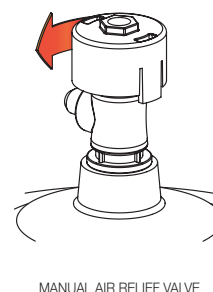

Figure 4
Verify that the Filter Manual Air Relief Body is in the LOCK position, and no filter components are missing, damaged or not genuine DuraTech components. (See Fig 4)
4. Place the Manual Air Relief Valve in OPEN position. (See Fig 4)